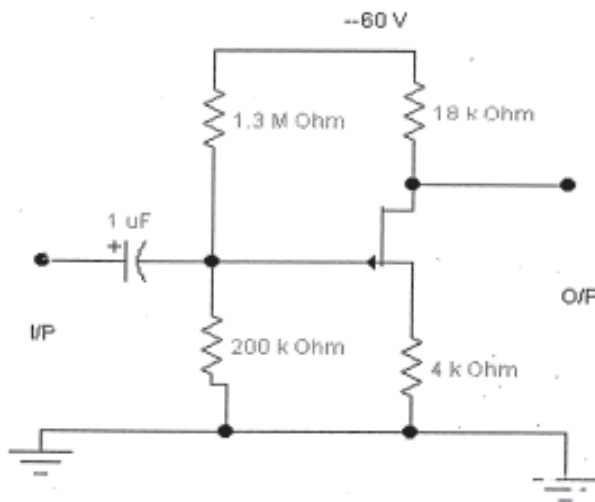

Fig. 8-b
- b) For the circuit shown in fig. 8-b, p-channel JFET has $V_p = 6\text{V}$, $I_{DSS} = 15 \text{ mA}$. 8